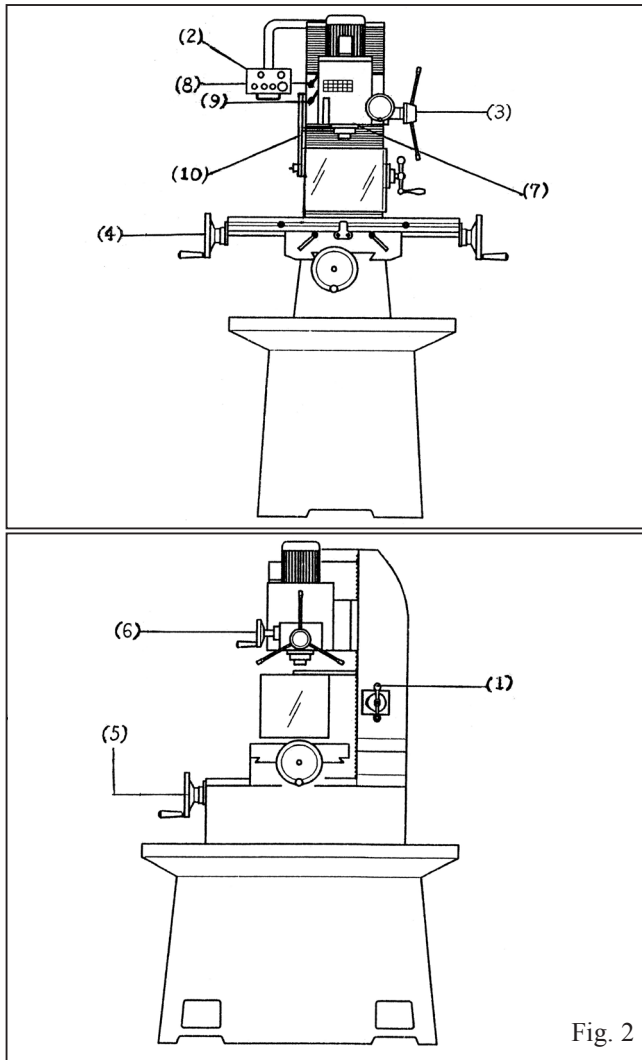

Fig. 2
2. After cleaning, coat all bright work with a light lubricant. Lubricated all points as fig. 2.
## USE OF MAIN MACHINE PARTS (SEE FIG. 2):